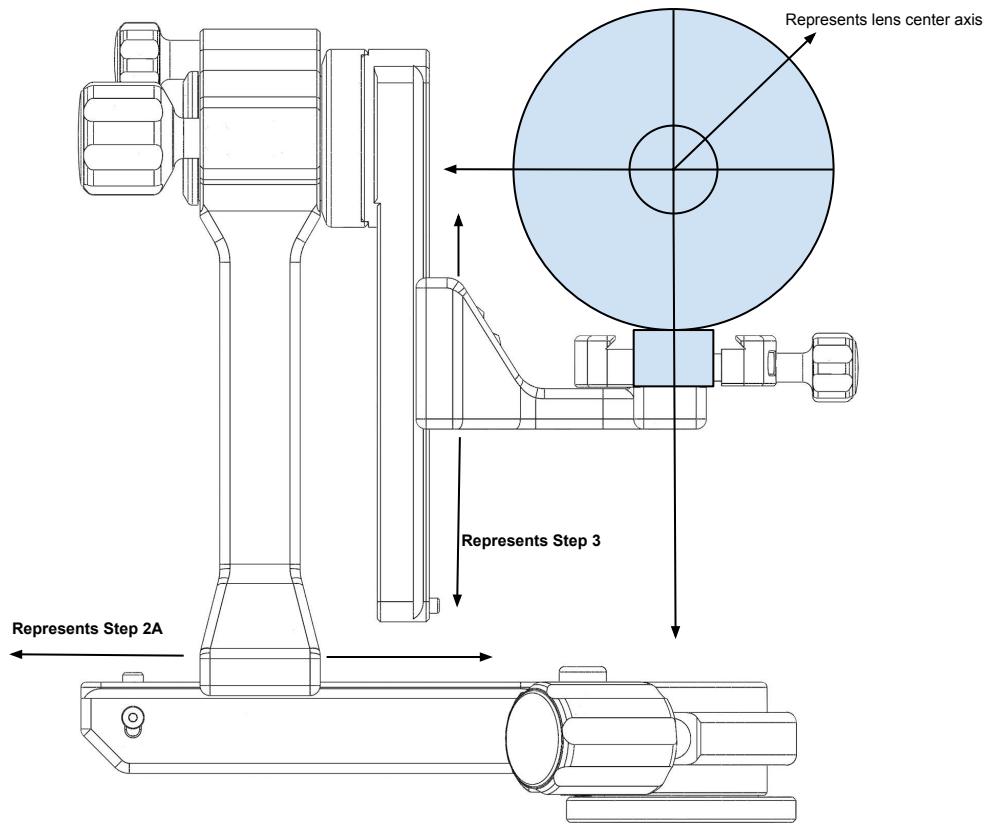

Figure 2
Step 1 Tighten pan lock knob (C) that is located on the gimbal head panning base. Attach the head to your tripod or leveling base and slightly tighten down. Loosen knob (C), press down and hold pan base locking pin (H) slowly rotate clockwise until locking pin engages into one of the four detent holes. Continue to press down locking pin (H) and fully tighten the head in place. Release locking pin (H). For removal of the gimbal head, reverse the above steps.
You will need to center the quick release mounting platform (K) close to the tripod center axis as shown in **Figure 2**. To achieve this, loosen side arm adjustment knob (F) make your adjustments and retighten knob (F).
Step 2B Please make sure tilt axis lock knob (B) is fully **tightened** and that tilt axis tension knob (A) is fully **loosened**.
Step 3 Now that you have properly adjusted the forward and backward balance of the lens, you will now need to adjust the vertical position of the lens. To achieve this, loosen quick release platform adjustment knob (E) and adjust the vertical position of the quick release mounting platform (K) so that the center of the lens is parallel or slightly higher than the center axis of the gimbal head like shown in **Figure 2**. Loosen knob (B) and tilt the lens roughly 30 degrees toward the sky. When you let go of the lens, if it wants to keep going in the direction you tilted it, you will need to lower the position of the lens by adjusting the position of the mounting platform (K). If the lens wants to return to the level position, you will need to raise the position of the mounting platform (K). The goal is to perfectly balance the lens so that it stays pointed in any position when the knob (B) is completely loose. By adding slight tension from knob (A) this will help you achieve this quickly.